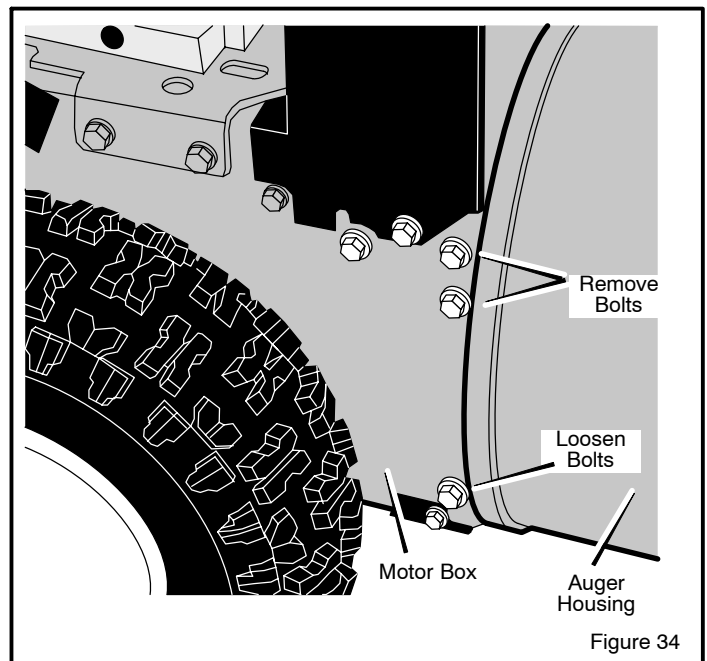

Figure 34
8. Remove the top four **bolts** that hold together the **auger housing** and the **motor box**. Loosen the bottom two **bolts**. The **auger housing** and the **motor box** can now be split apart for removal of the belt (see Figure 34).